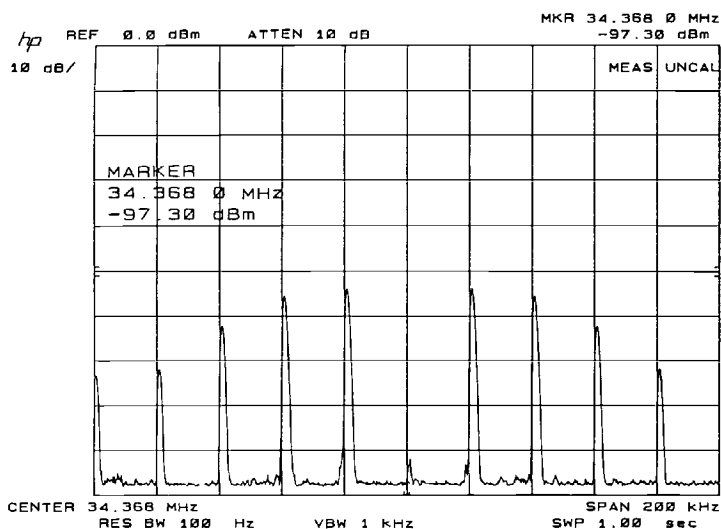

Figure 3-45
5. Adjust the HP 37717C jitter amplitude until the first **Bessel Null** is observed on the Spectrum Analyzer i.e first dip in the carrier level. (As an example, Figure 3-45 shows the first Bessell Null for 34MHz.)